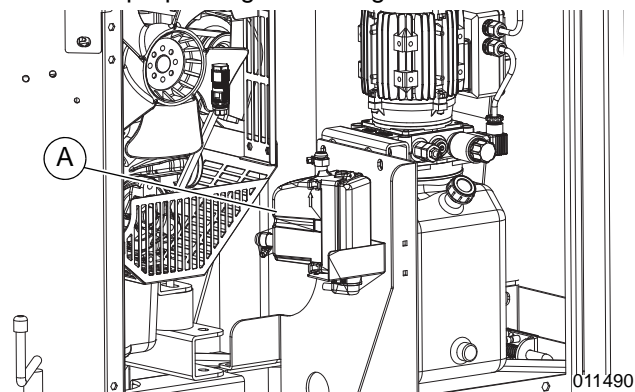

Figure 3-16. Coolant Heater
See Figure 3-16. The coolant heater (A) helps keep the coolant warm in extreme cold temperatures. While the heater is designed to be operated overnight if necessary, 2–5 hours of heating just prior to starting is usually sufficient for proper engine starting.